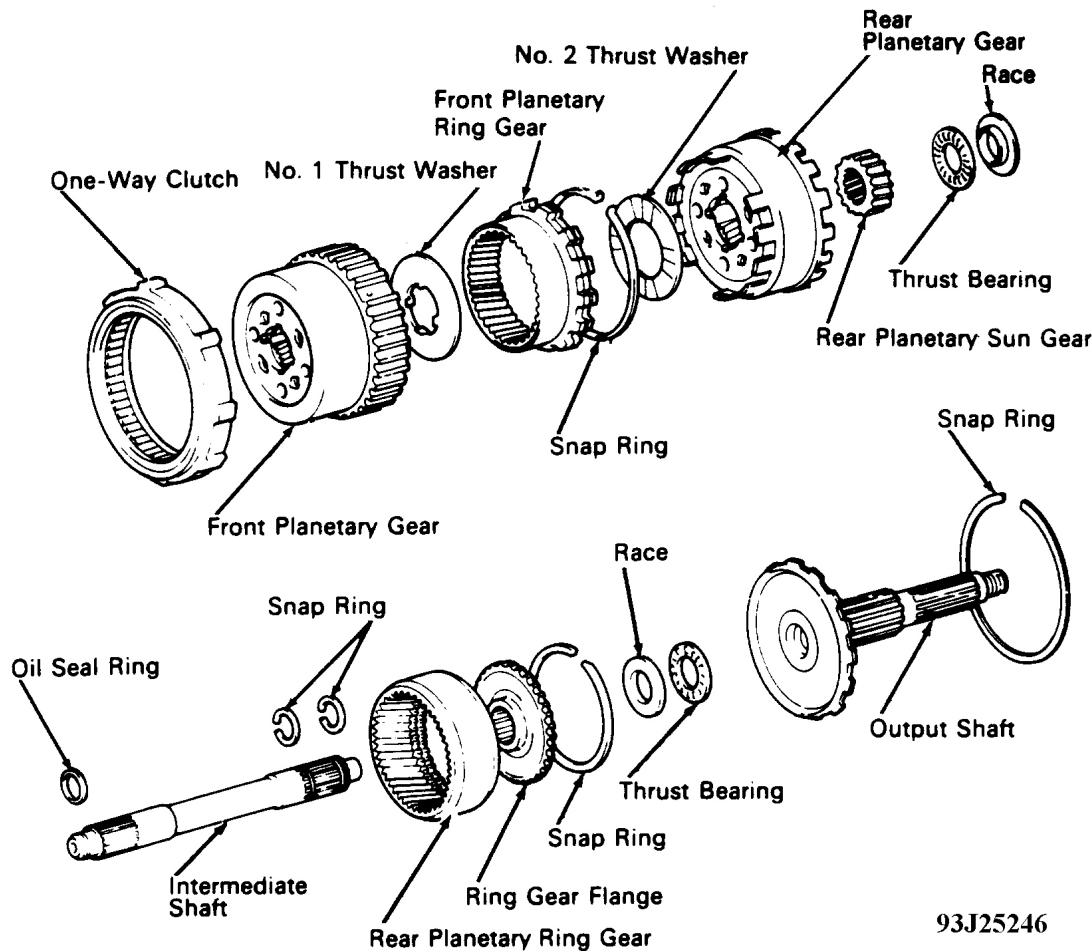

Fig. 33: Exploded View Of Planetary Gears, One-Way Clutch & Output Shaft
1. Remove rear planetary gear and output shaft from front planetary gear. Remove No. 1 rear thrust washer from front planetary gear. See **Fig. 33**.
8. Install No. 1 rear thrust washer on rear side of front planetary gear. Securely fit claws of thrust washer into grooves of front planetary gear. See **Fig. 33**.